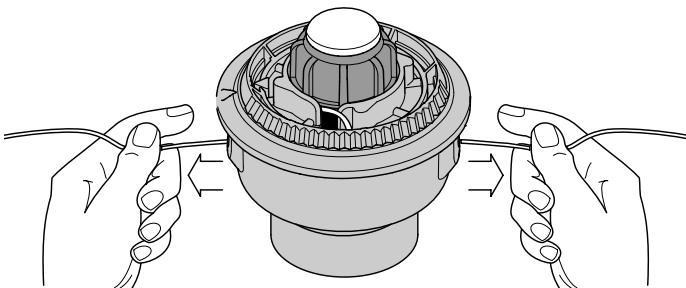

Fig. 19
- If winding the line becomes difficult or the line jams, pull the ends of the line from the spool (Fig. 19). Continue winding the inner reel counterclockwise.
- Hold the inner reel in place and install the bump knob, spring and foam seal. Press down and turn the bump knob clockwise. Grasp the ends and pull firmly to release the line from the holding slots in the inner reel (Fig. 19).
If the SpeedSpool® does not release line correctly, pull the ends of the line firmly from the spool (Fig. 19). If this does not release the line, follow the *Cleaning the SpeedSpool®* instructions.